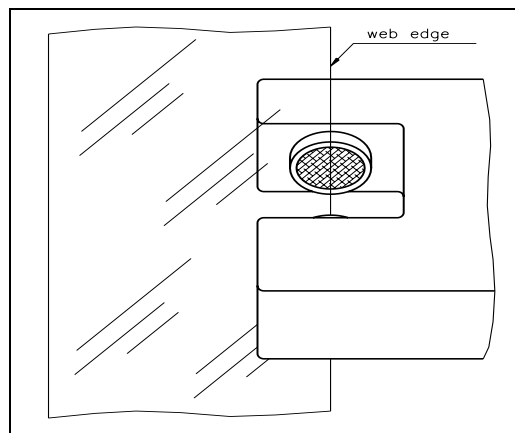

fig 6: Aligning of the sensor axis to the web edge K100004e
- Align sensor axis to the web edge: Loosen the fixing knob on the bracket and adjust the sensor. Fix the sensor in the new position. The sensor will be positioned properly if the web edge goes through the sensor axis (center of active window; refer to fig. 6)